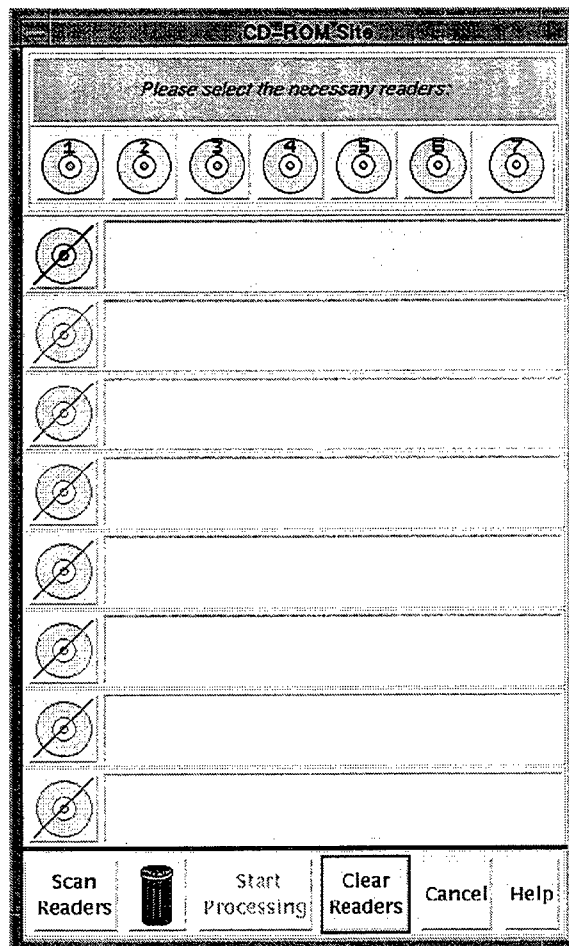

Fig. 75 — CD-ROM Site Window
- 2) MMC will pop up the **CD-ROM Site Window** (Fig. 75) listing all seven CD slots, including six in the CD changer (CDROM1 through CDROM6) and the Alpha's internal CD drive (CDROM7).
- MMC will pop up the **CD-ROM Site Window** (Fig. 75). Currently, MMC will only allow a user to log in one CD at a time, so select the first CD reader containing a CD to be logged, click on *Scan*
6. After selecting the CAC CD in the **CD-ROM Site Window** (Fig. 75), click on *Scan Readers*, then *Start Processing*. MMC will display the CAC data, centered on the selected point (step 4, above).
- MMC will also pop-up the **CD-ROM Site Window** (Fig. 75).